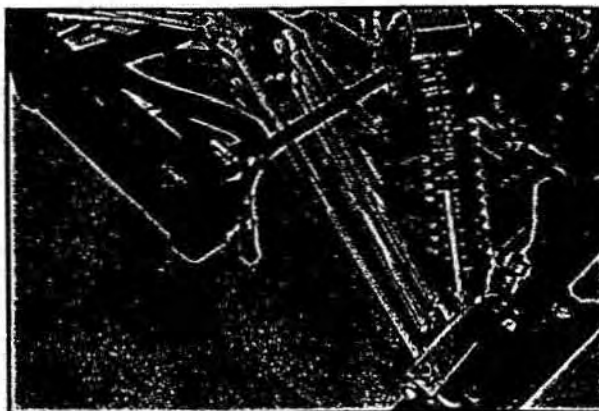

Figure 7
3. Shock spring adjustment — Fig. 7, the shock springs are adjustable and should be tailored to individual preference.